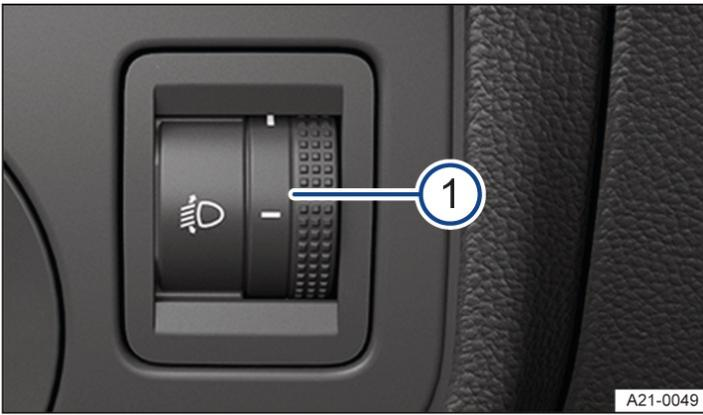
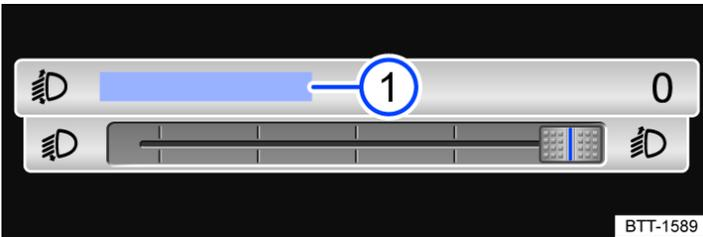

Fig. 1 Next to the steering wheel: control for headlight range control.
Fig. 2 In the Infotainment system: Touch control for headlight range control.
Depending on the vehicle equipment, the headlight range can be adjusted with the → fig. 1 ① control or with the touch control in the Infotainment system → fig. 2 ①.
5. Move the touch control to the required position (example vehicle load) → fig. 2 ①.
1. Turn the control → fig. 1 ① to the required position (example vehicle load).